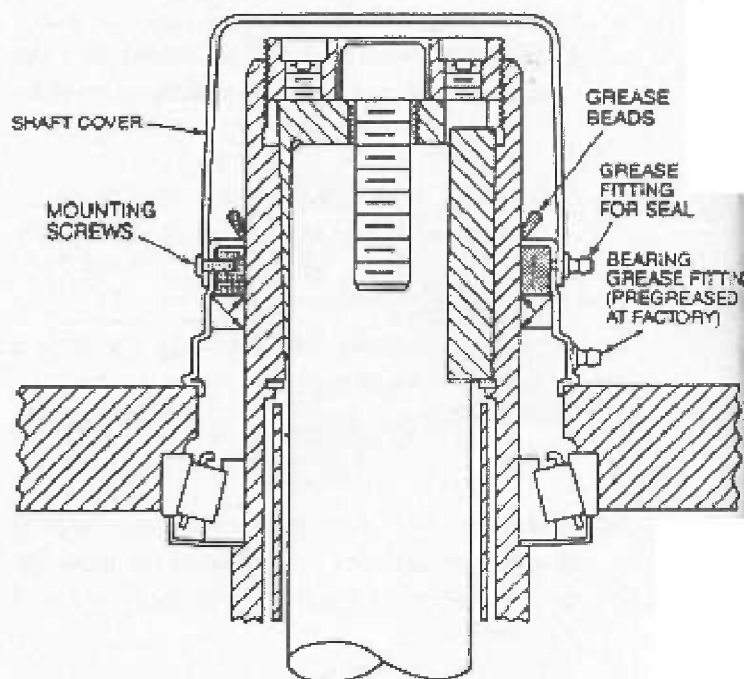

Figure 13 — Installing the low-speed shaft cover
9. Refer to Fig. 13. Check to be sure the lower bearing assembly is recessed into the housing. Pack the bearing cavity with NLGI #2 bearing grease.
12. Refer to Fig. 13. Pump NLGI #2 bearing grease into the upper fitting on the low-speed seal cage while rotating the high speed shaft until a uniform bead of grease appears between the seal cage and the hollow shaft. Place the low speed shaft cover over the seal-cage and secure it with the three sheet-metal screws provided.